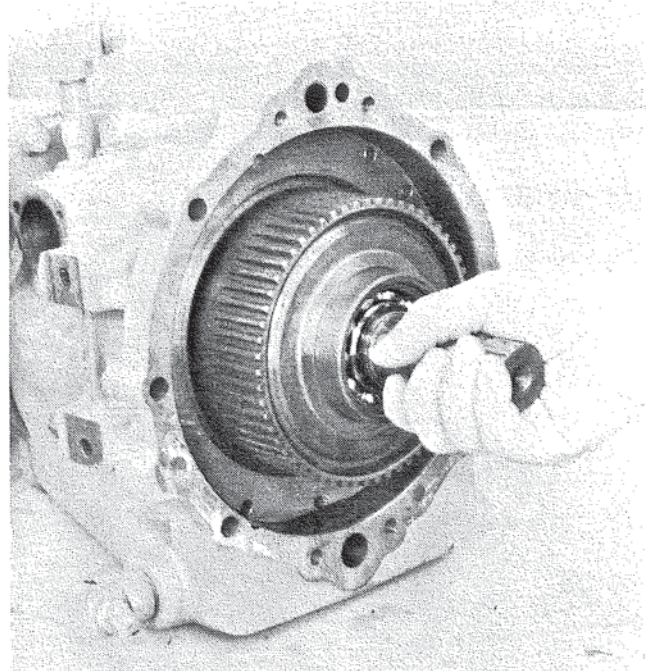

Figure 21. Removing Drive Gear and Clutch Assembly.
1. Grasp the exposed front end of the input gear and lift straight up; drive gear and clutch assembly parts lift easily out of opening in front. Figure 21.